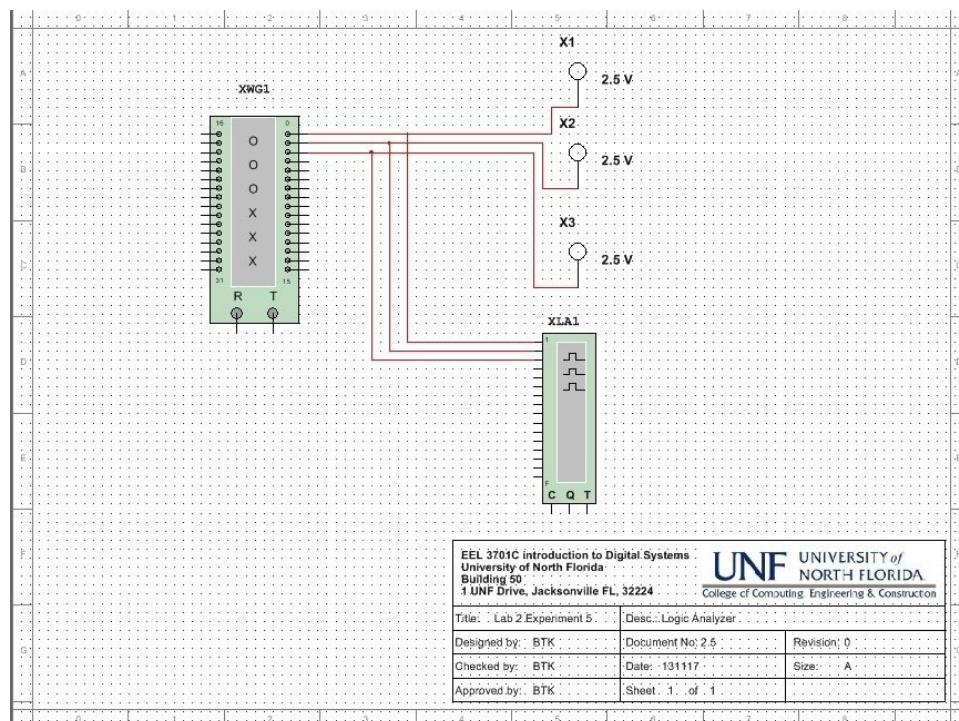

Figure 14. Using the Logic Analyzer sink.
- 3) Place a Logic Analyzer sink in the schematic window and wire it as shown in Figure 14. This tool is available from the Simulate menu by selecting Instruments and then Logic Analyzer. You can also use the short-cut on the instrument selection bar. Multisim will let you drag and place the Logic Analyzer sink in the schematic window as you did with the components.